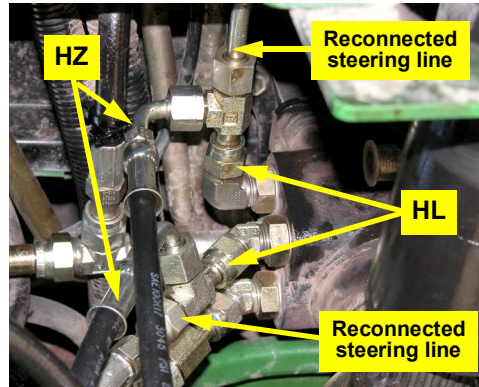
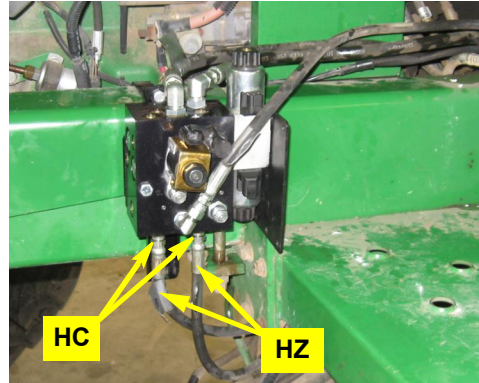

Figure 7a: Steering run-tees and hoses at orbital. Machine's steering lines reconnected.
Figure 7b: Steering hoses connected at steering block
- a. Identify the machine's steering ports stamped L and R on the orbital casing. Disconnect the steering lines if not already disconnected. Install run-tees **HL** in the steering ports. Reconnect the machine's steering lines to the open 'T' ends of the run-tees (Figure 7a - you will connect steering hoses **HZ** at the next step).
- b. Connect steering hoses **HZ** to the stems of run-tees **HL** (Figure 7a) then route them under the machine's frame up to the hydraulic steering block. Connect the hoses to adapters **HC** in the **A** and **B** ports at the bottom (as mounted) of hydraulic steering block (Figure 7b).